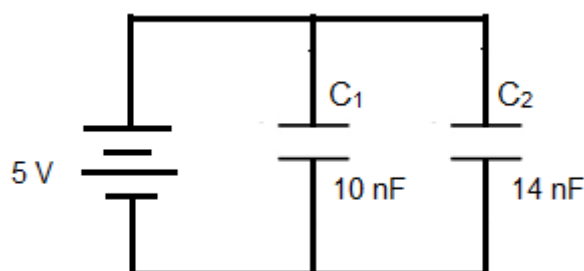

FIGURE 5.2: Capacitors connected in parallel
5.5 Figure 5.2 shows capacitors connected in parallel. Calculate the total capacitance of the circuit. (3)